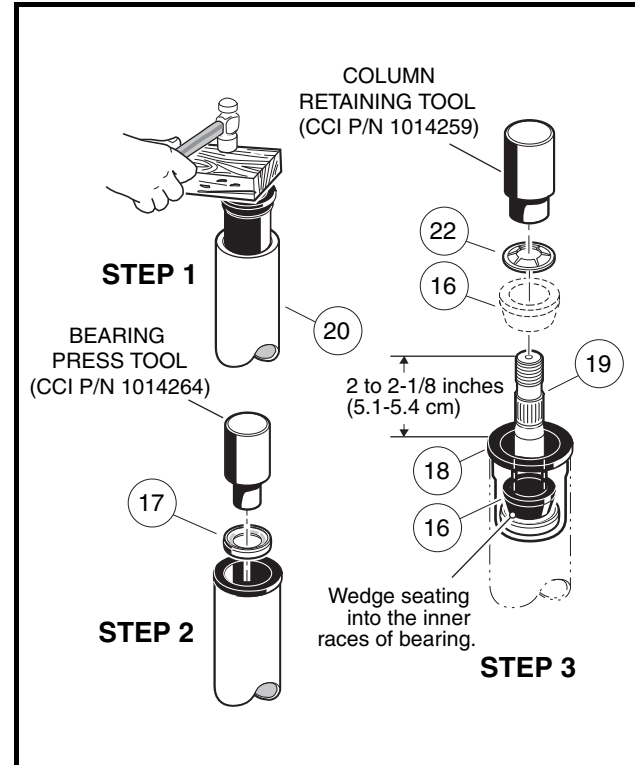

Figure 7-6 Steering Shaft – Top End
5. Turn the assembly over and place the shaft (19) on a bench. Install the wedge (16) and retaining ring (22) onto the top of the shaft. Be sure the prongs on the retaining ring face up and away from the wedge. Use a steering column retaining ring tool (CC P/N 1014259) to seat the retaining ring to the proper depth. Support end of tube while pressing. If you do not have the recommended tool, use the same tube as was used in step 2 to press the retaining ring onto the top of the shaft. The retaining ring should be pressed onto the shaft until 2 to 2-1/8 inches (5.1-5.4 cm) of the shaft extends from the top of the bearing seat in the steering tube (**Figure 7-6, Page 7-6**).